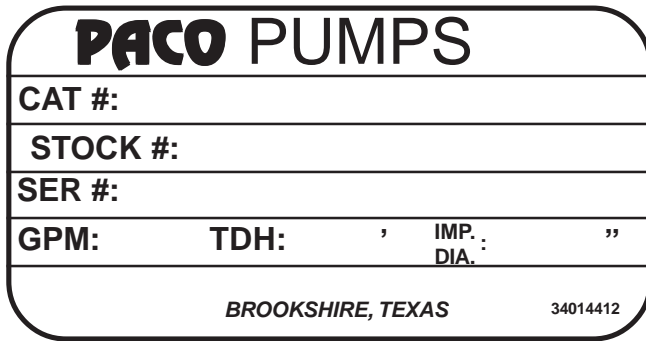

FIGURE 1a
- All PACO Pumps are identified by Catalog and Serial Numbers. These numbers are stamped on the pump nameplate (Fig.1a) affixed to each pump volute casing, and should be referred to in all correspondence with the Company.